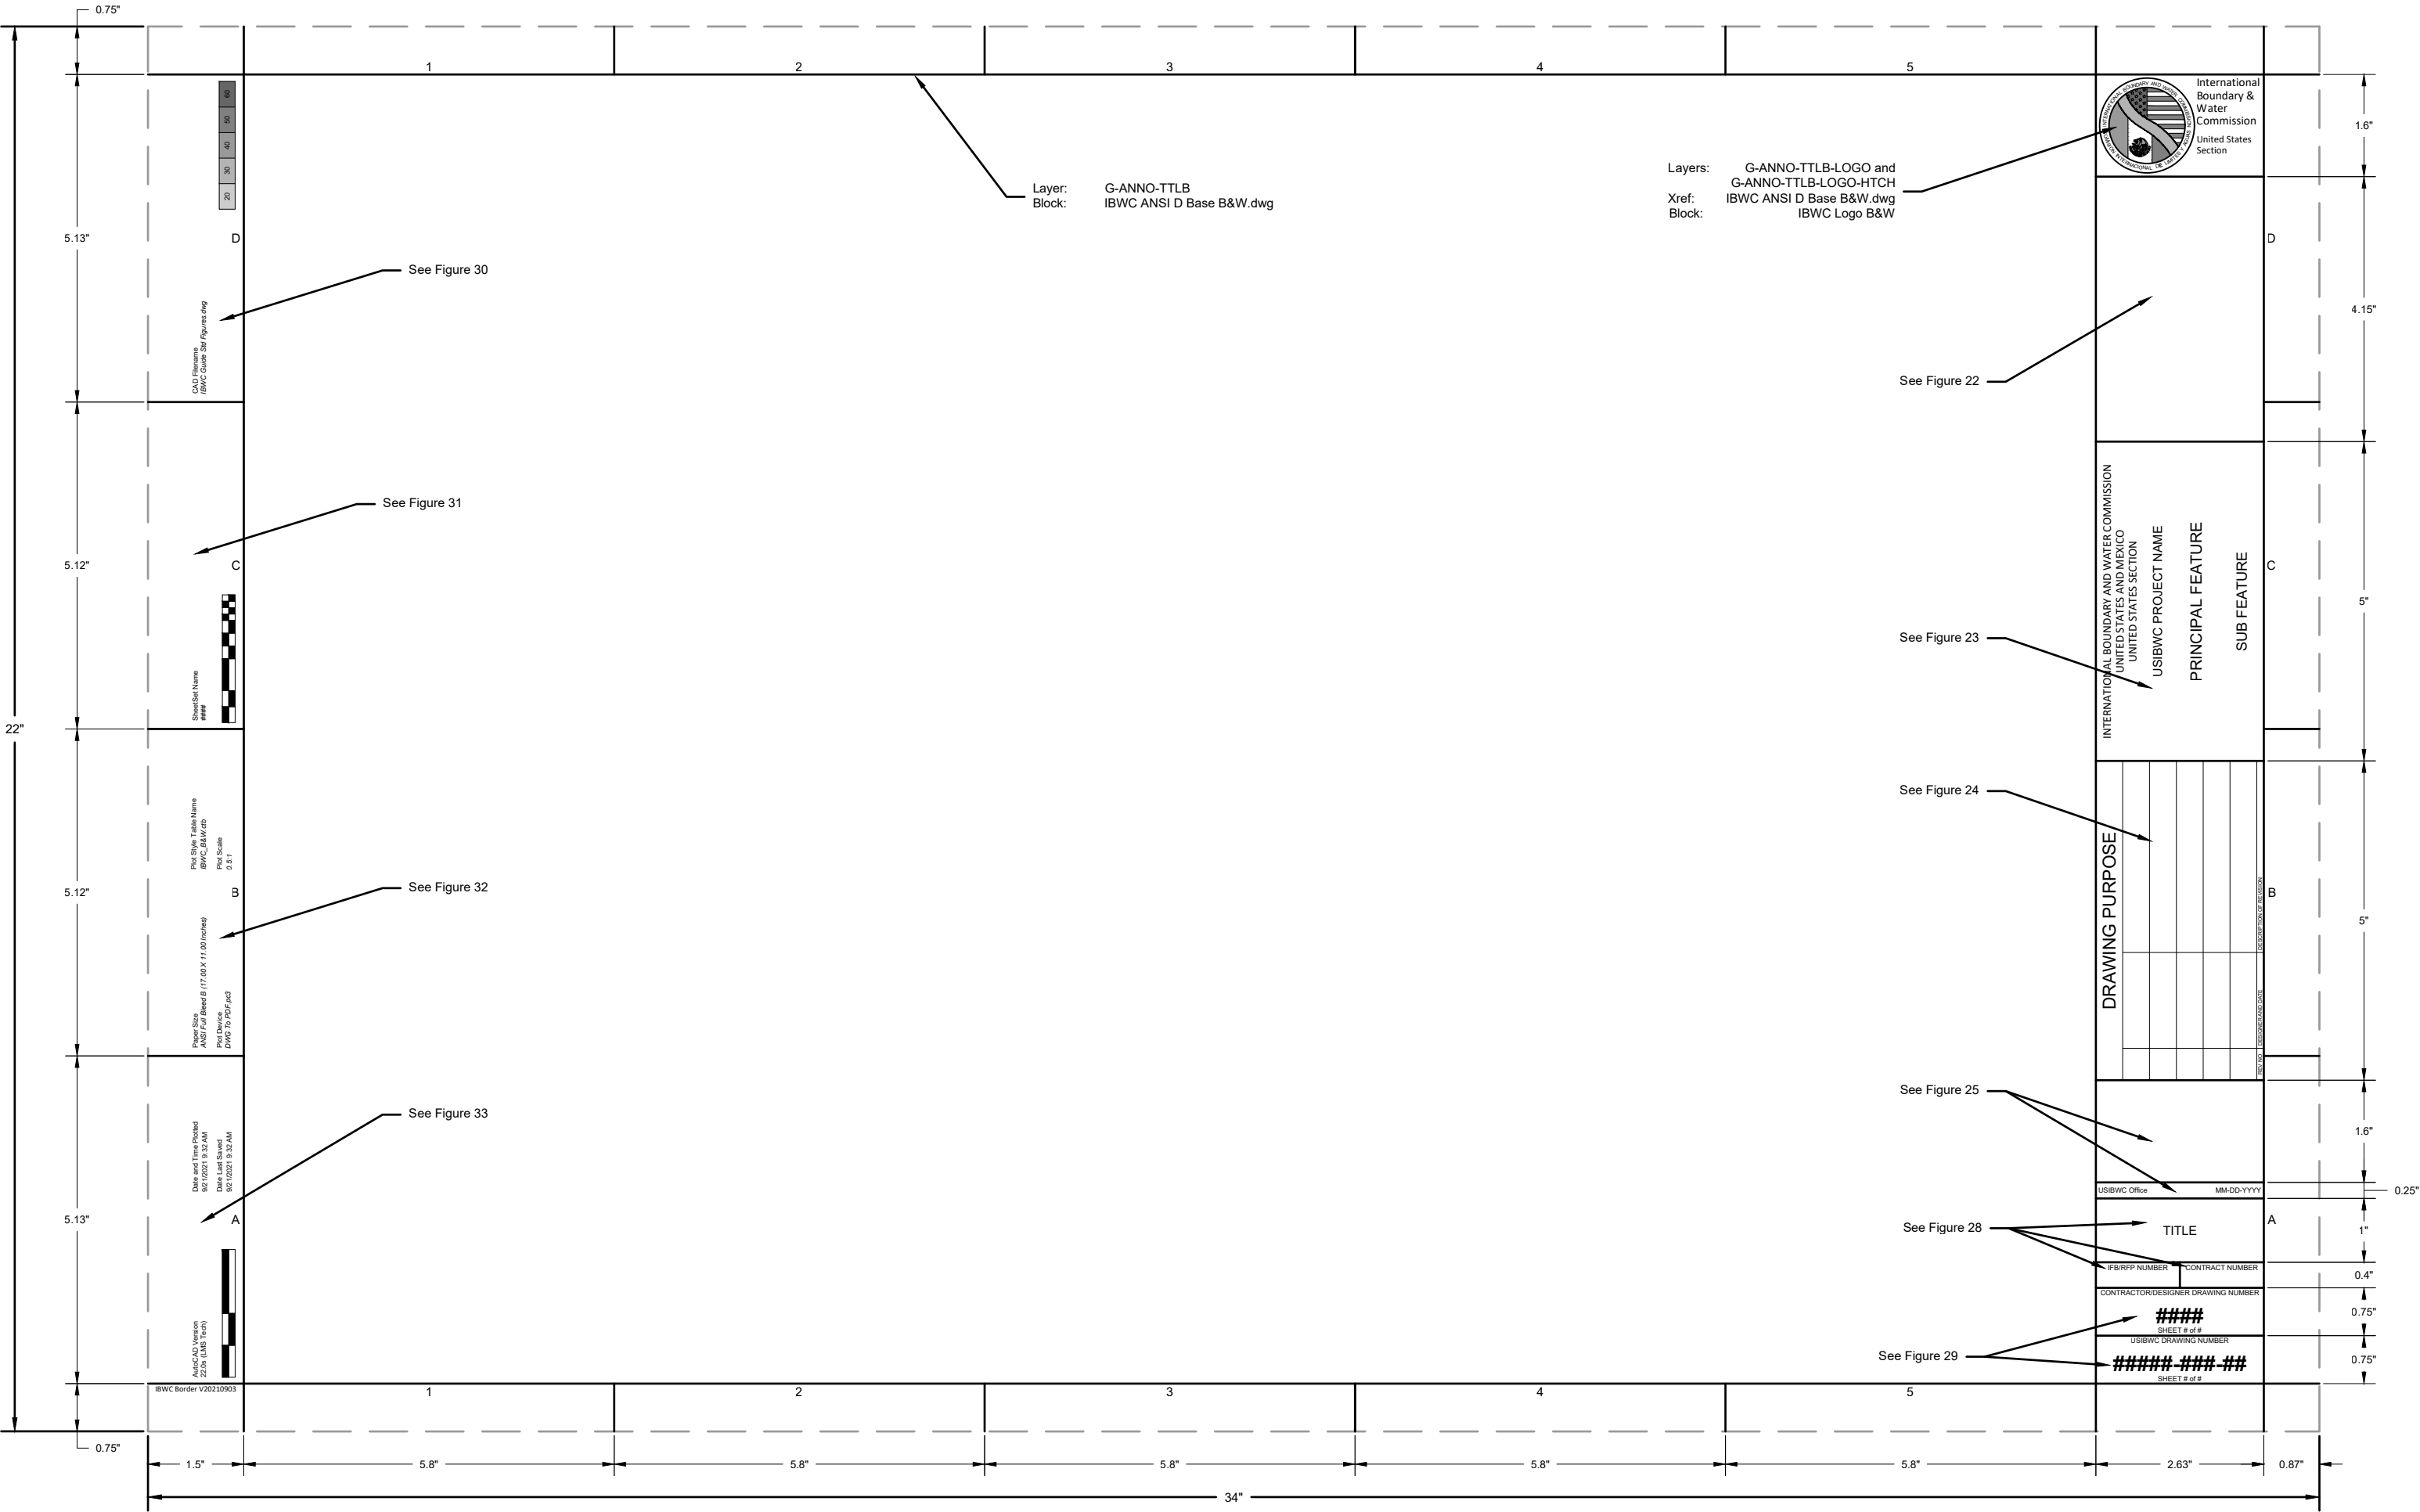

Figure 21
4.1. BORDER LAYOUT (FIGURE 21)
The complete drawing border is shown in Figure 21 (see 11"x17" page before this page). Figure 21 identifies nine sections of the border which are further described below.